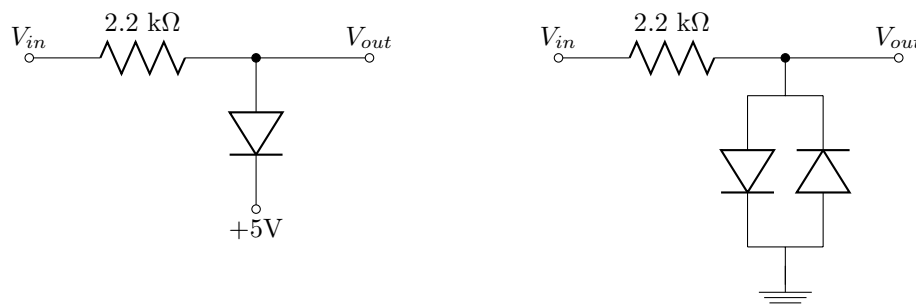

Figure 2: A simple voltage clamp (left) and a voltage limiter (right)
- (5) Construct the circuit shown on the left of figure 2. Connect the FGEN input to  $V_{in}$ , and insert a 100 Hz 10Vp-p sine wave. Simultaneously observe the input and output on the oscilloscope of the ELVIS II. Vary the DC offset of the input signal from -5V to +5V and confirm the circuit performs as you would expect.
- (6) Modify your circuit to the voltage limiter shown on the right of figure 2. Insert a 100 Hz 10Vp-p sine wave and observe both  $V_{in}$  and  $V_{out}$  on the oscilloscope. Explain why the circuit behaves as it does.
**Question 1:** Obtain a value for  $V_D$  from the behaviour of the voltage limiter. How does this value compare to the value found in (4)?